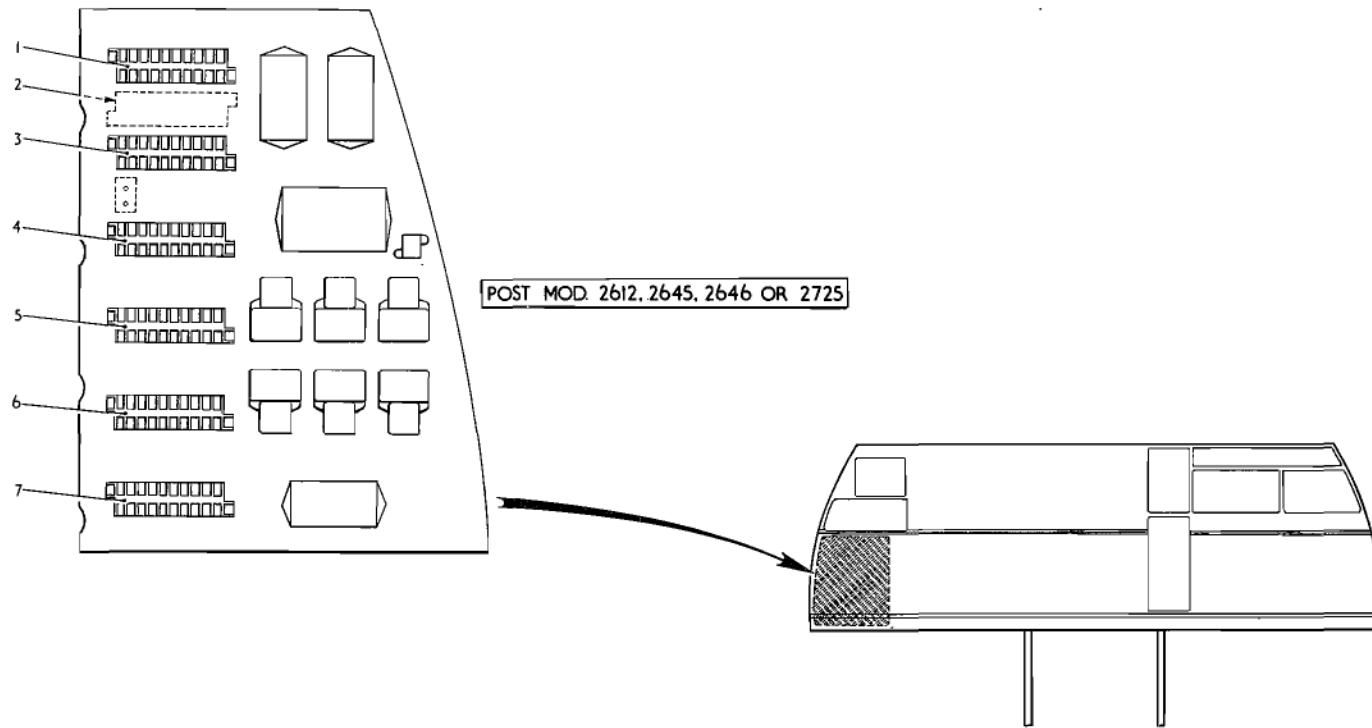

Fig. 7 Details of equipment in radio crate (2)
Key to fig. 7 (Details of Equipment in radio crate (2))